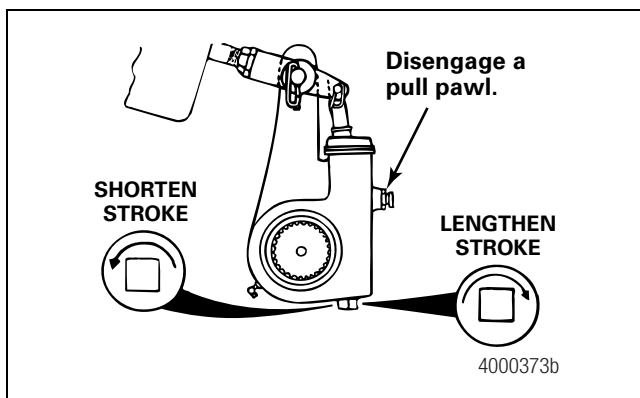

Figure 6.3
- **If the free stroke measurement is not within specification:** Turn the adjusting nut 1/8 turn in the direction shown in Figure 6.3 and check the free stroke again. Continue to measure and adjust the stroke until the measurement is within specification.